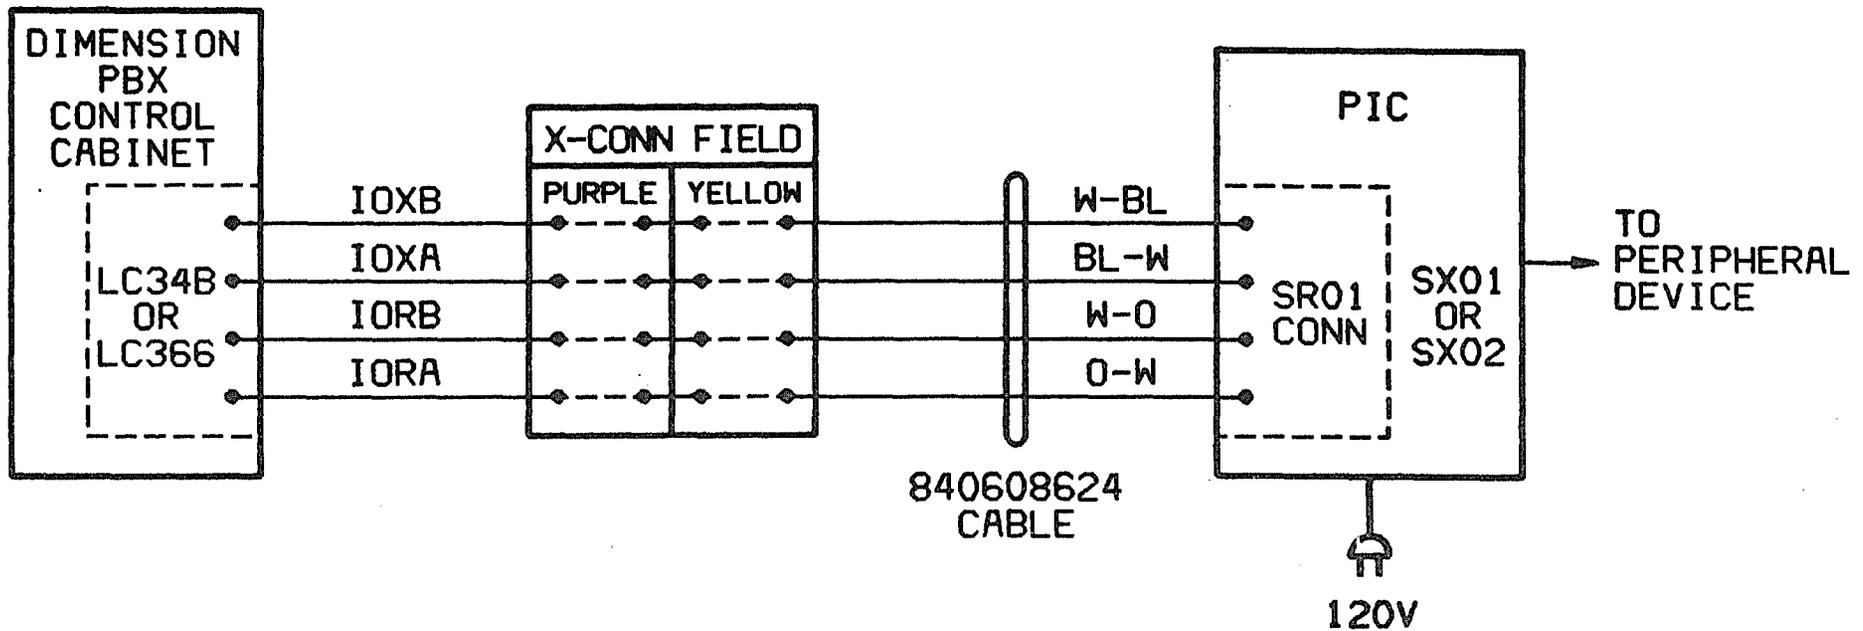

FIG.4 - PIC CROSS CONNECTION
- 4.1.4 Punch down the W-BL, BL-W, W-O, and O-W leads of the PM-CA-01 cable on the CONN BLK TERMINALS that were found in steps 4.1.1 and 4.1.2. See Fig. 4 for more details.